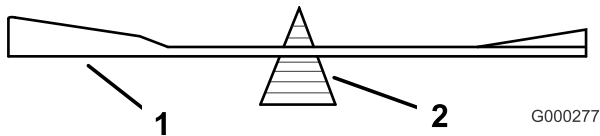
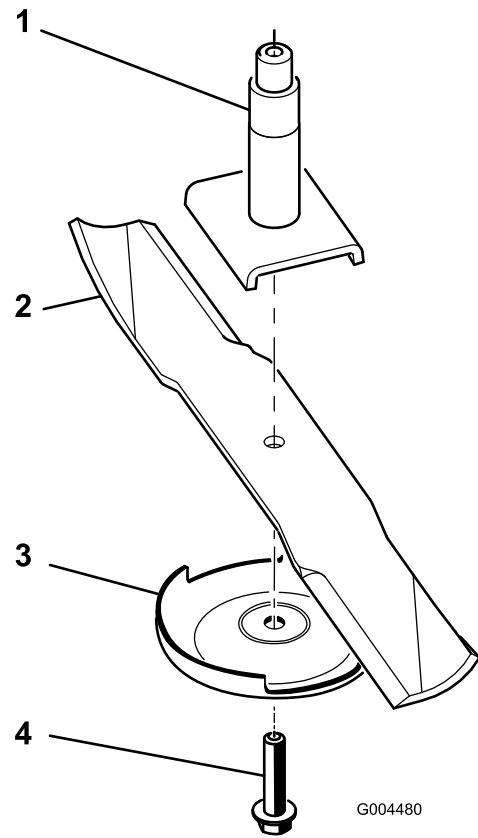

Figure 68
Figure 69
- Remove the blade bolt, anti-scalp plate, and blade from the spindle shaft (Figure 69).
- Check the balance of the blade by putting it on a blade balancer (Figure 68). If the blade stays in a horizontal position, the blade is balanced and can be used. If the blade is not balanced, file some metal off the end of the sail area only (Figure 69). Repeat this procedure until the blade is balanced.
- Install the blade onto the spindle shaft (Figure 69).
- Install the anti-scalp plate and blade bolt (Figure 69).